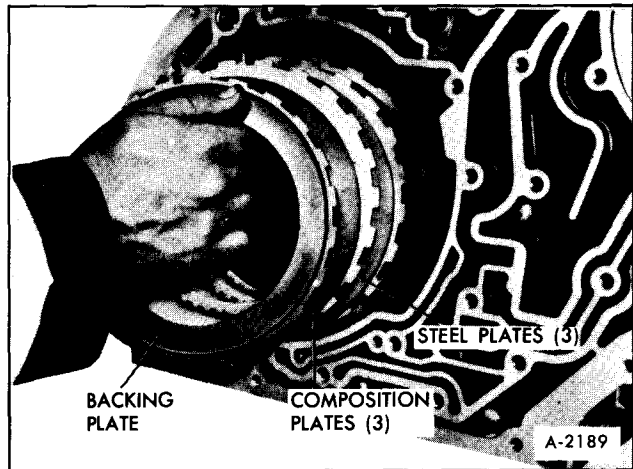

Figure 77—Installing Intermediate Clutch
11. Lubricate three steel and three composition intermediate clutch plates with transmission fluid and install clutch plates in transmission case, Figure 77. Start with steel plate and alternate composition and steel plates.